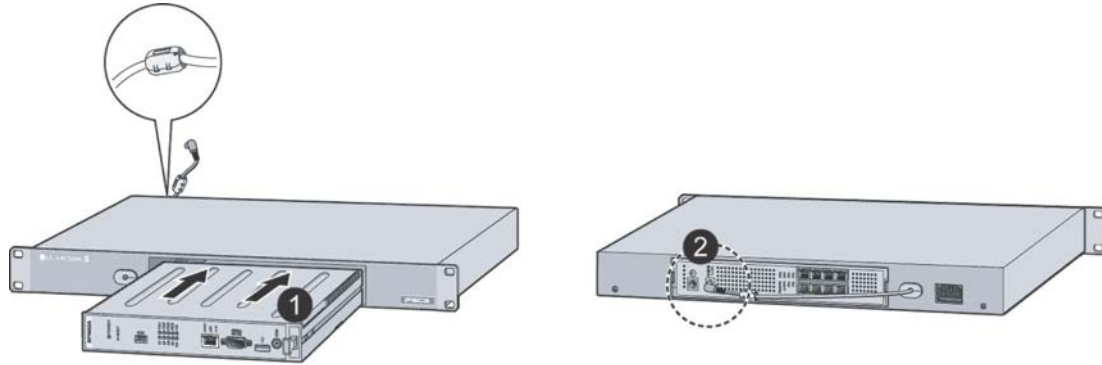

Figure 4.3.5-2 1U-RMB Gateway Installation
3. Install the 1U-RMB in a standard 19' rack securely with four (4) appropriate machine screws, nuts and lock-washers. Refer to Figure 4.3.5-3.